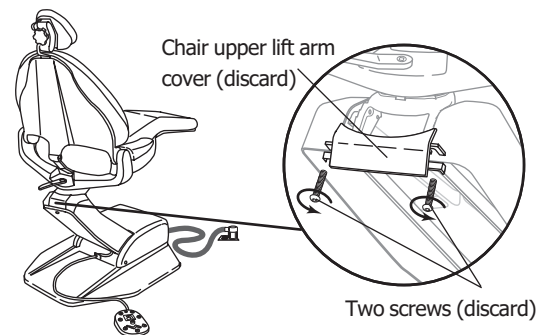

Figure 3
3. Remove the chair upper lift arm cover by removing the two screws. Discard both the screws and the chair upper lift arm cover (see Figure 3).